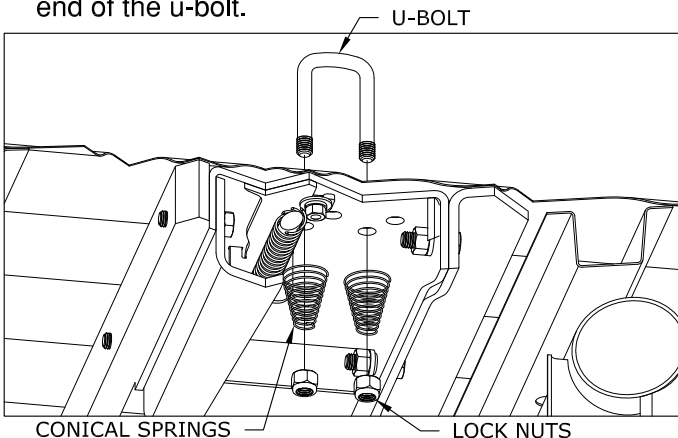

FIGURE G3: Cut away view of bed and center section
- 3. Add springs.** Place a conical spring over each leg of the u-bolts and secure with a $\frac{1}{2}$ " lock nut, see figure G3. Tighten the lock nut until the nut is flush with the end of the u-bolt.